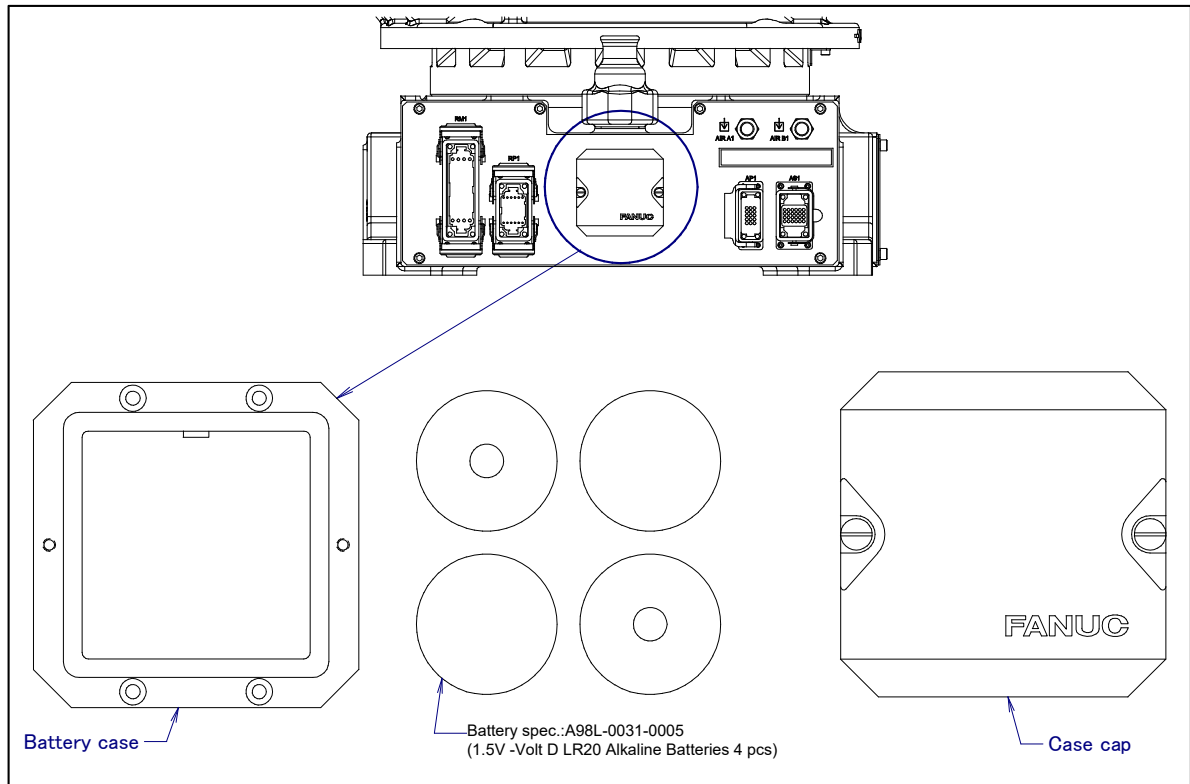

Fig. 7.3.2 (a) Replacing the battery
- 2 In case of 210WE, remove J1 base side cover and replace the battery referring to Fig.7.3.2 (d). After replacing the battery, reinstall the cover. In this time, replace gasket by new one for sealing up characteristics of battery store space.